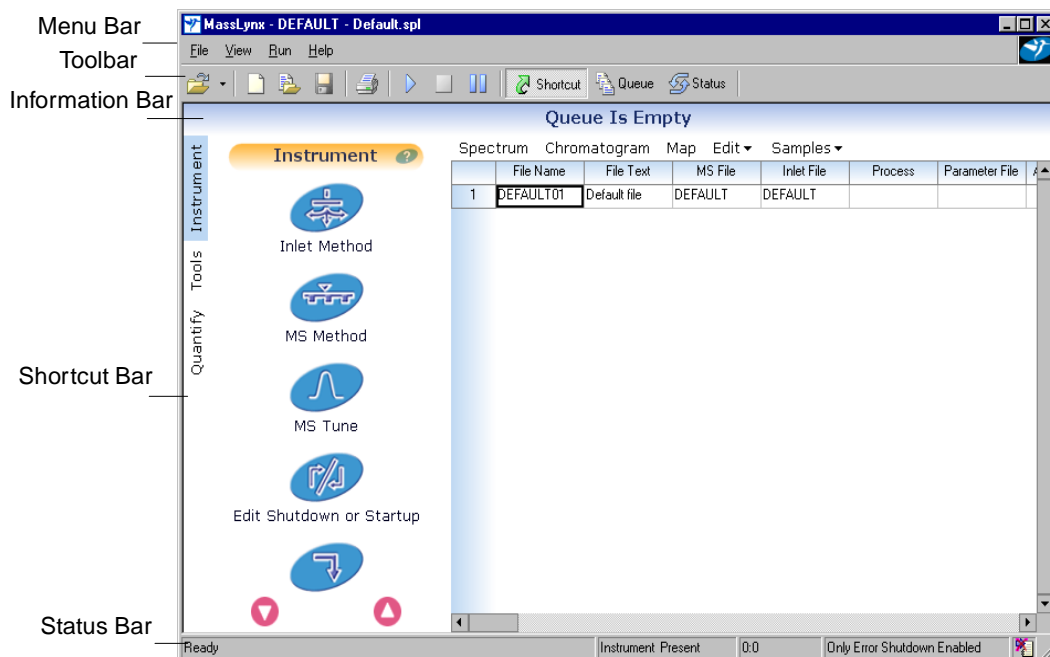
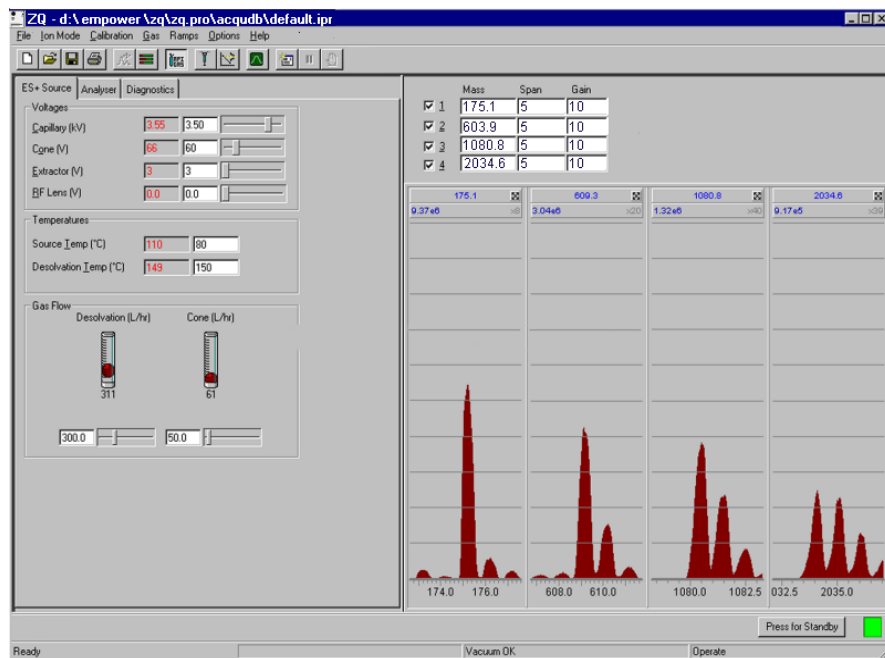

Figure 3-2 MassLynx Main Window
Figure 3-3 Tune Window Displaying the ES+ Source Page
**Note:** The Login dialog box appears only when you enable MassLynx security. Otherwise, the MassLynx Main window (Figure 3-2) appears after you click the MassLynx V4.0 desktop icon. See the MassLynx Security User's Guide (version 4.0) for details about enabling MassLynx security.
- Click **OK**. The MassLynx Main window appears (Figure 3-2).
- Select **MS Tune** from the Main window (Figure 3-2) shortcut bar to open the Tune window (Figure 3-3).
2. Make sure the instrument is operating, noting whether peak activity appears in the Tune window's Peak Display area (Figure 3-3). If the instrument is not operating (indicated by no peaks), click **Press for Operate**.